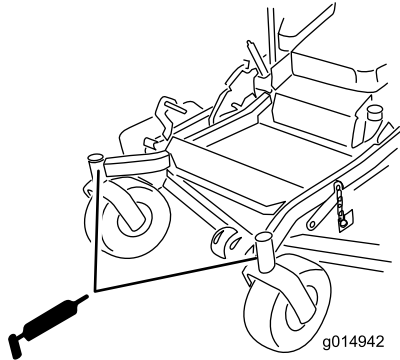

Figure 44
9. Remove the grease zerk in the hole. Install the hex plug and dust cap (Figure 44).
10. Grease the caster wheel bearings (Figure 44).